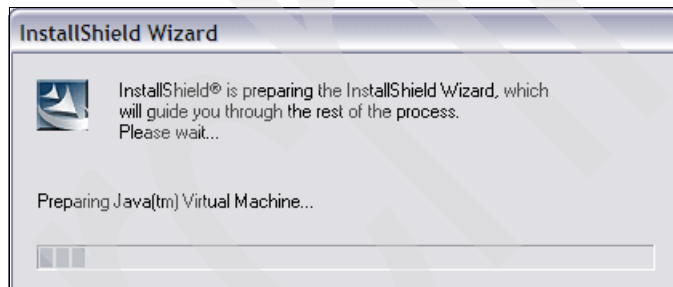

Figure A-7 Preparing JVM
2. The Preparing JVM display appears (Figure A-7).
The process is generally the same as that described for the setup file installation. You will see the same first three panels that do not require any input (see Figure A-7 on page 194, Figure A-8 on page 195, and Figure A-9 on page 195). The next display requires you to activate the real installation procedure, as shown in Figure A-19. You can verify the patch level in the text. Click **Next** to start.